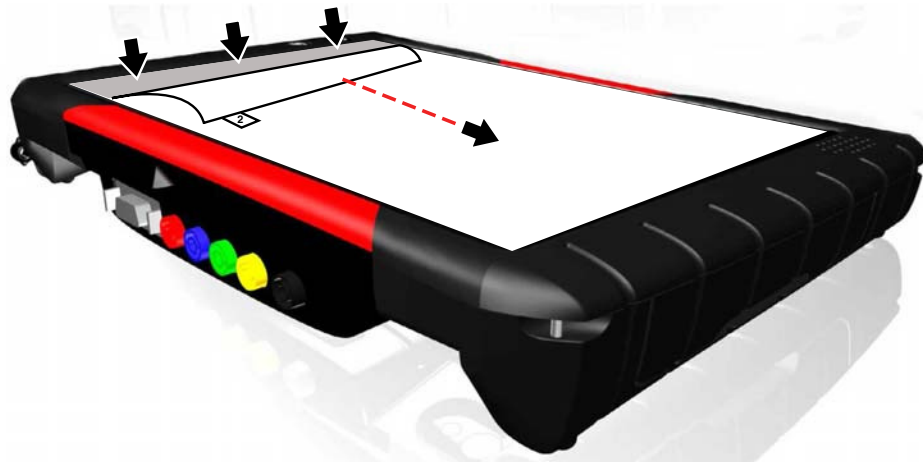

Figure 17-6 Removing front mask (Tab 2)
5. Once the protector is in place and air bubbles are removed, slowly remove the front mask (Tab 2) (Figure 17-6). Lightly hold the protector in place (under Tab 2), when you start to remove the front mask.